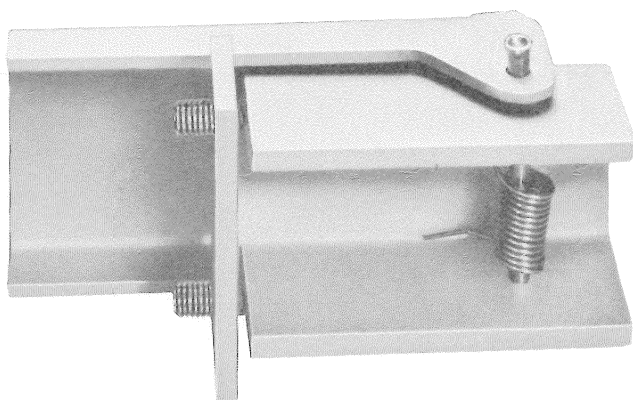

Fig. 3—KS-20224 Dome Stop
2.09 The KS-20224 dome stop (Fig. 3), a spring loaded device, is designed to mount along the door track (Fig. 4) to prevent the dome from falling when the fasteners are released.